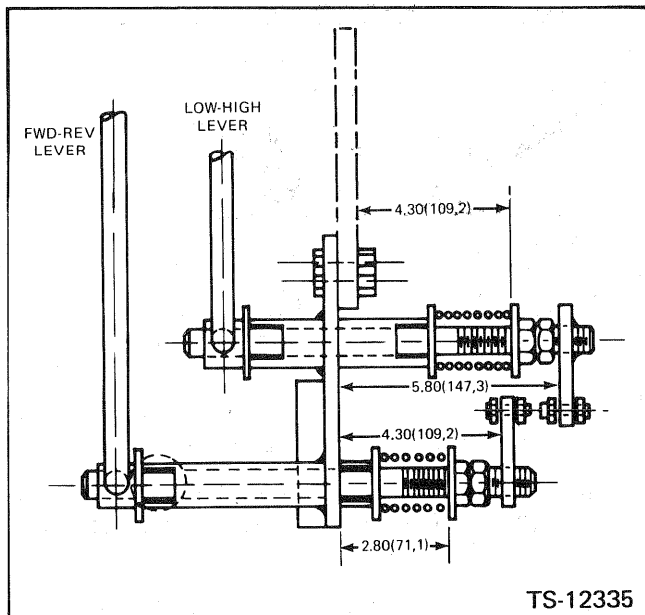

Fig. 9-5 Adjust Spring Tension
11. Adjust the amount of spring tension on the forward-reverse lever and high-low lever by tensioning the springs to dimension shown. (See Fig. 9-5).